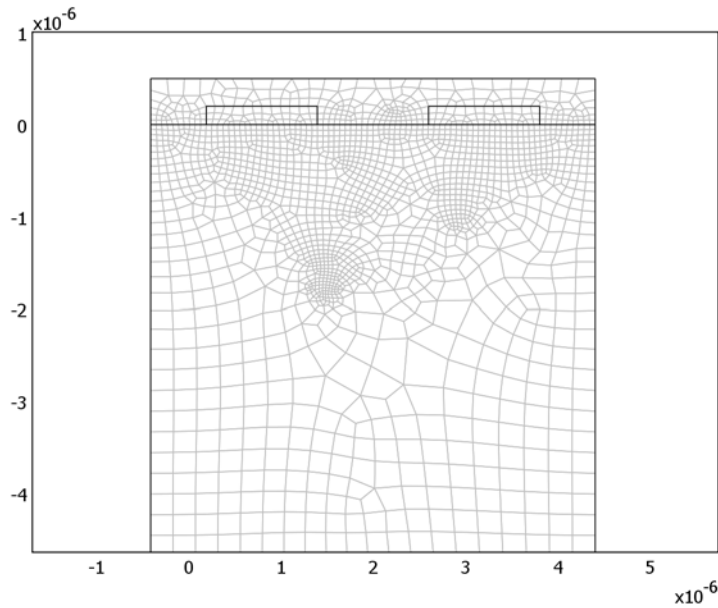

Figure 3-61: The meshed geometry.
- 5 Click **Remesh**, then click **OK**. When done, a zoom-in on the upper part of the geometry should look like Figure 3-61.